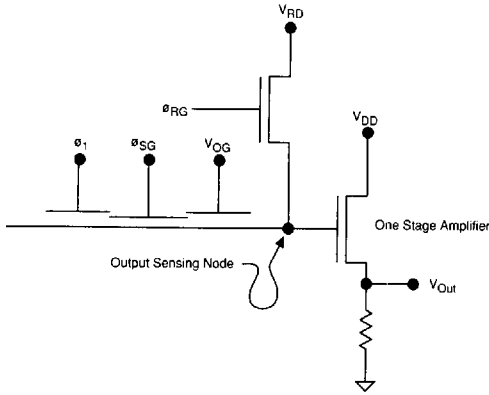

Figure 5. Output Structure
(V_{OG}) as shown in Figure 5. The summing gate (SG) can be clocked with one of the serial clock phases or with its own clock generator (see Figure 6 for summing gate timing). For example, two parallel lines of charge are additively transferred into the serial register, then the summing gate is pulsed low after the charge from two serial pixels has been transferred into the summing well. Thus, the resulting signal represents the sum of charges in four (2×2) contiguous pixels from the imaging section. It effectively reduces the 512×512 device to a 256×256 array and increases the pixel size by 4 times. Other variations of this technique can be useful for low-light level situations, i.e., scenes with low contrast, or a low signal-to-noise ratio. There is, of course, a loss in resolution which accompanies the gain in effective pixel size.
There is an on-chip amplifier which is located at the end of each extended serial shift register. The amplifier is a single-stage buried-channel transistor (Figure 5) designed to operate in the source-follower configuration with an off-chip load resistor ($1K\Omega - 20K\Omega$). It has a bandwidth of approximately 5 MHz with a 10 pF load.